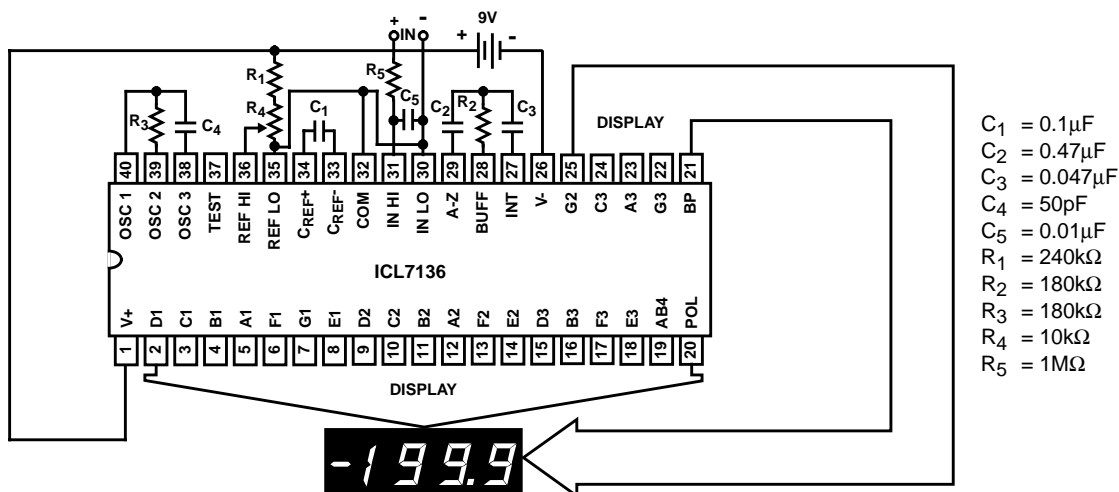
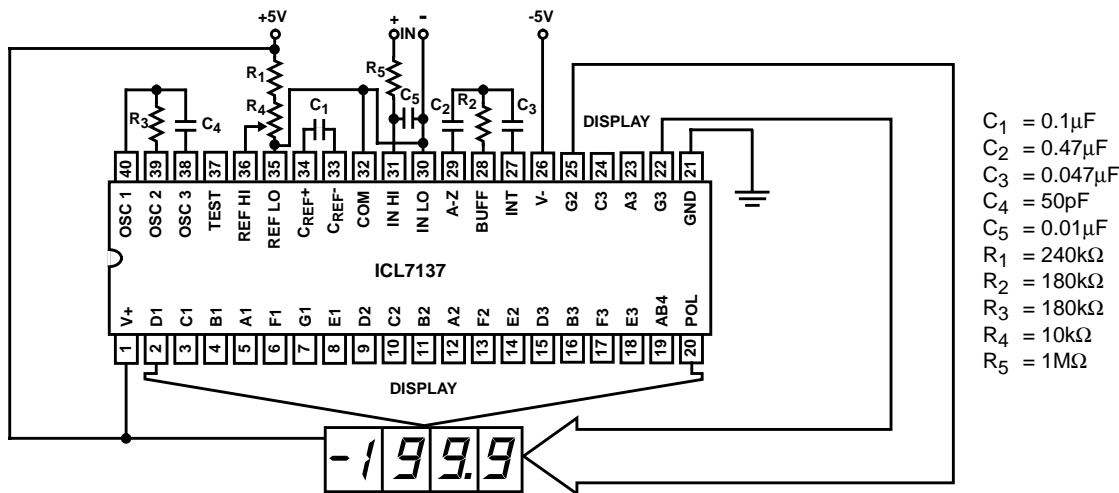

FIGURE 1. ICL7136 TEST CIRCUIT AND TYPICAL APPLICATION WITH LCD DISPLAY COMPONENTS SELECTED FOR 200mV FULL SCALE
FIGURE 2. ICL7137 TEST CIRCUIT AND TYPICAL APPLICATION WITH LED DISPLAY COMPONENTS SELECTED FOR 200mV FULL SCALE
3. Unless otherwise noted, specifications apply to both the ICL7136 and ICL7137 at  $T_A = 25^\circ\text{C}$ ,  $f_{\text{CLOCK}} = 48\text{kHz}$ . ICL7136 is tested in the circuit of Figure 1. ICL7137 is tested in the circuit of Figure 2.